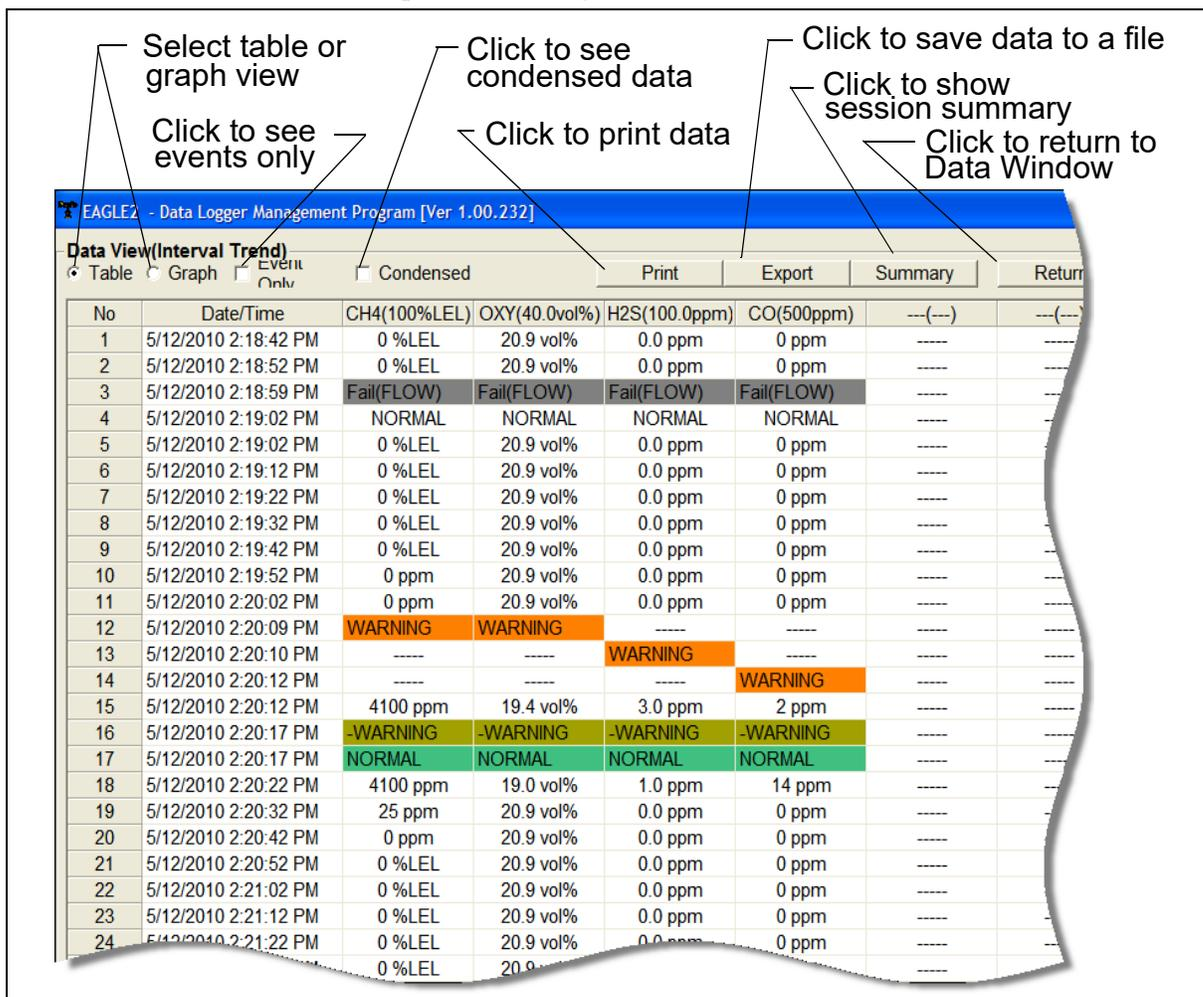

Figure 21: Interval Trend Data in Table Format
- Interval trend data can be viewed in either table or graph format by selecting the Table or Graph selection buttons. The example below in Figure 21 is shown in table format.